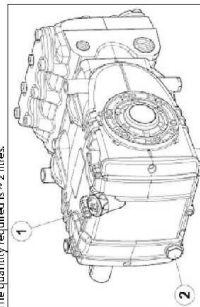

Fig. 3
Using the oil dipstick pos. ⑩, Fig. 3.
The correct checking of the oil level is made with the pump not running, at room temperature. The oil change must be made with the pump at working temperature, removing the oil dipstick, pos. ⑪, and then the plug pos. ⑫, Fig. 3.